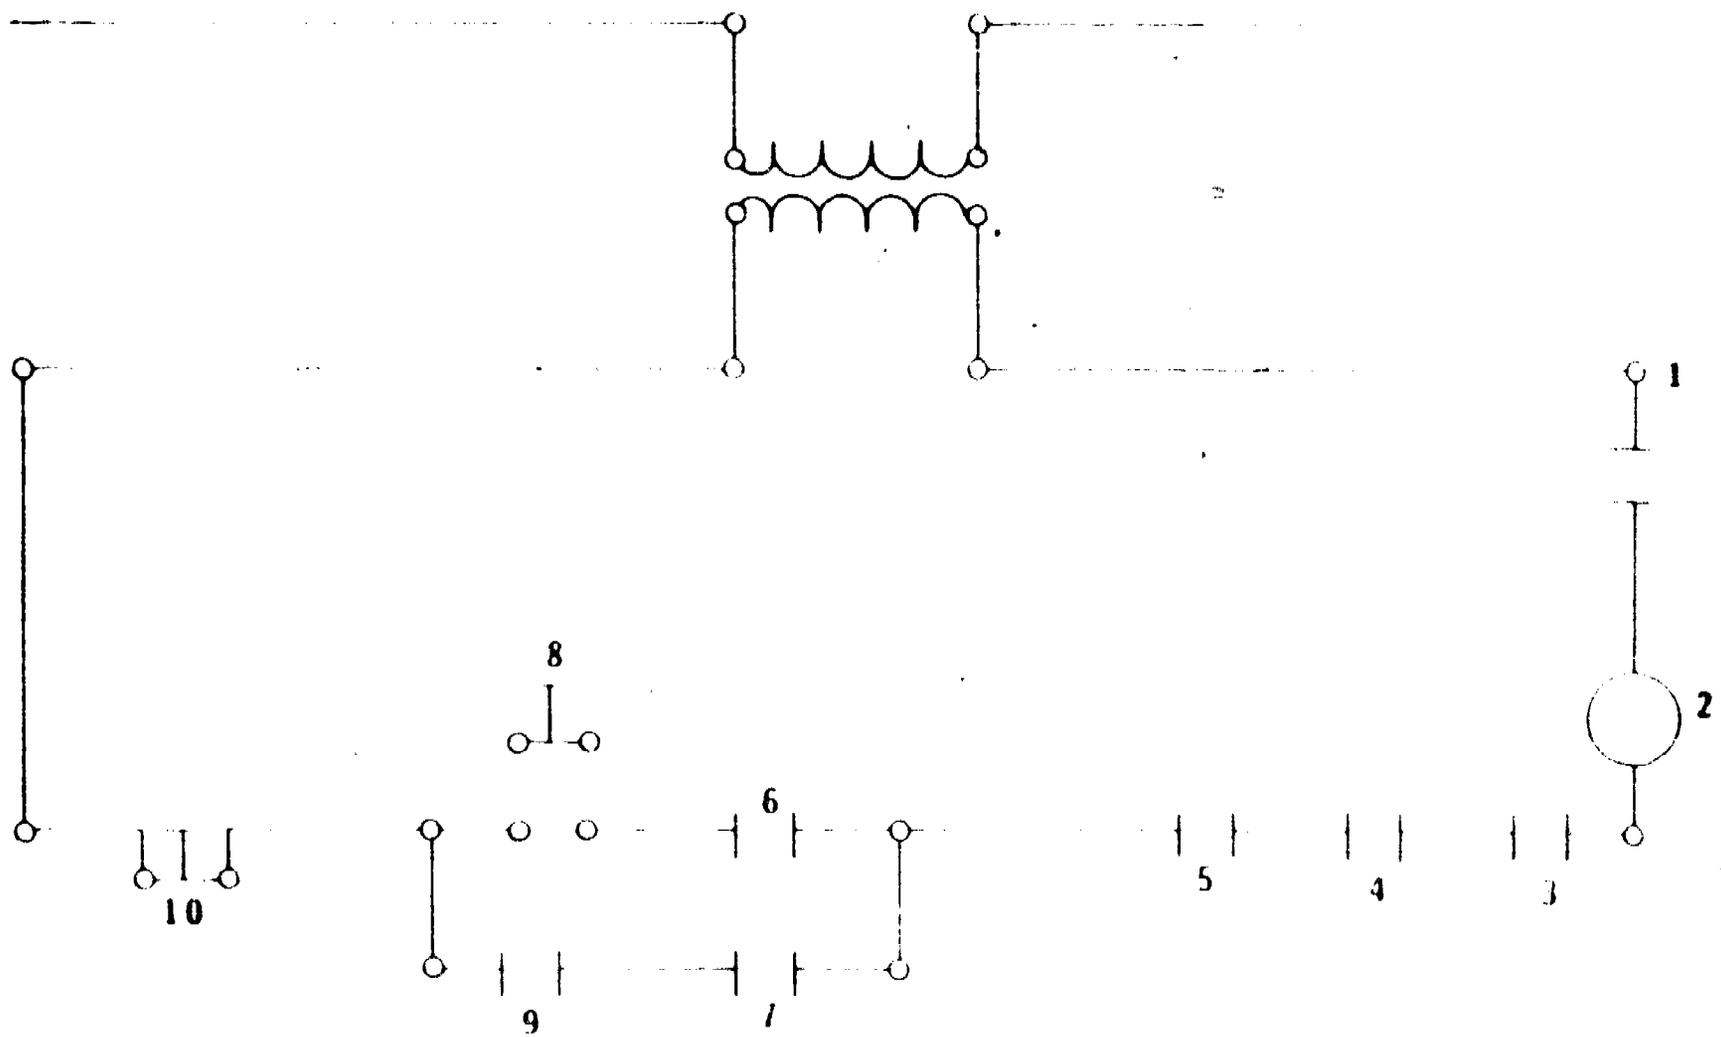

Figure 5. Safety Control Circuit
1. Refer to figure 5 of this workbook and list the switches that must be closed
1. Using a red pencil, indicate in figure 5, the starting circuit.
2. Using a blue pencil, indicate in figure 5, the run circuit.